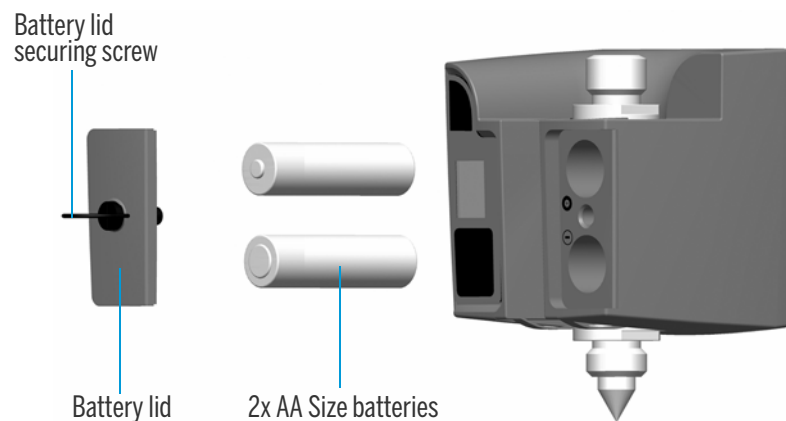

Figure 5.41 Target ID battery change
4. Fit the battery lid and then secure it by turning the screw a quarter of a turn clockwise. See Figure 5.41.